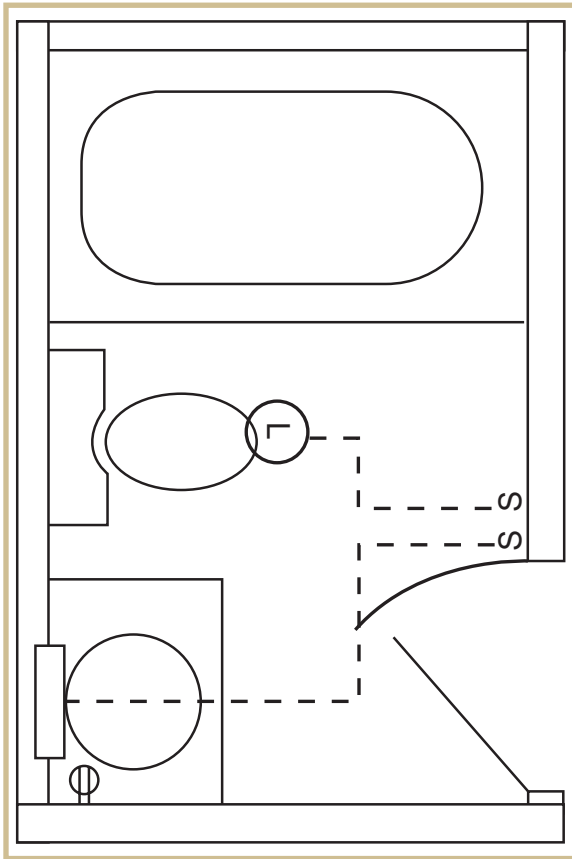

FIGURE 8—Note any NEC violations in Table 2.
Now, you're ready to begin this part of your project. Carefully study the wiring diagrams shown in Figures 8 through 12.
To be sure that you understand how this exercise works, one example has been completed for you in the table. Figure 8 shows a typical residential bathroom. As you can see in the figure, the outlet receptacle next to the basin isn't GFCI protected. This is a violation of the *NEC*. (Article 210.8(A) (1) indicates that all electrical outlets in bathroom areas must have GFCI protection.) So, you would describe the problem as shown in the first line of Table 2.